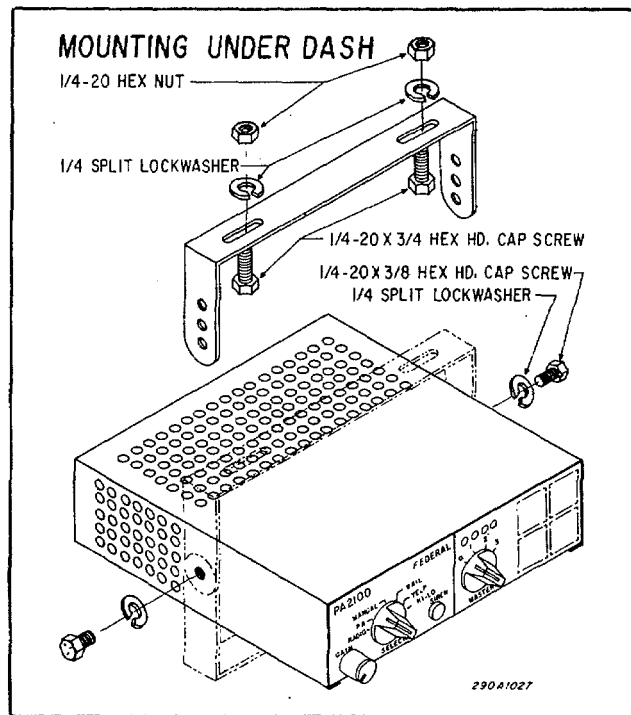

Figure 3-1. Installation of Siren Under the Dash.
Mount the siren in a location that is convenient and comfortable to the operator and where it will not interfere with the safe operation of the vehicle. Keep visibility and accessibility of controls in mind when choosing a mounting location.. To install the bracket under the dash, determine the mounting location and proceed as follows (See figure 3-1):
C. Secure the mounting bracket to the dash using two each of the following: 1/4 - 20 x 3/4 hex head screws, 1/4" split lockwashers and 1/4 - 20 nuts as shown in figure 3-1.